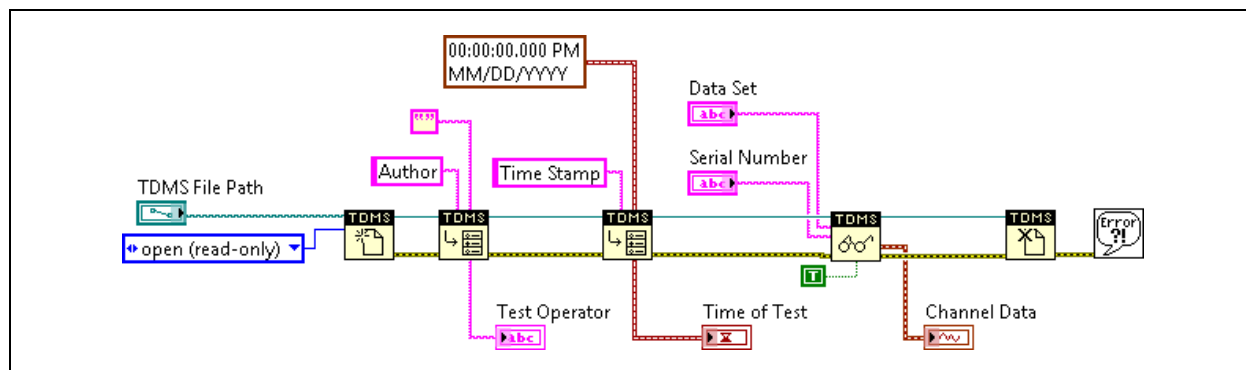

Figure 3. TDMS Reader Block Diagram
- ☐ Wire the block diagram as shown in Figure 3.